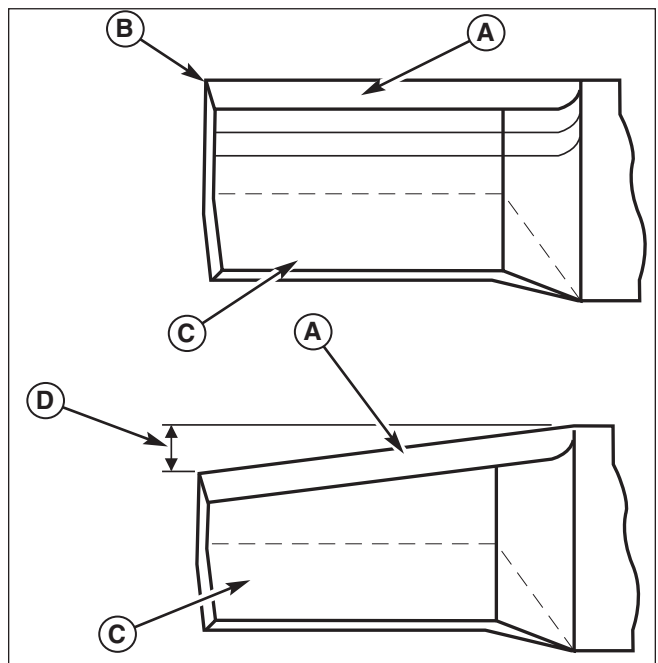

Figure 18. inspecting the Mower Blade Tips
2. Inspect the mower blade (Figures 18 & 19). **Discard the mower blade if it has any of the below conditions.**
- A.) Has more than .5" (12,7 mm) of the mower blade metal removed from previous sharpening or wear (D, Figure 18).